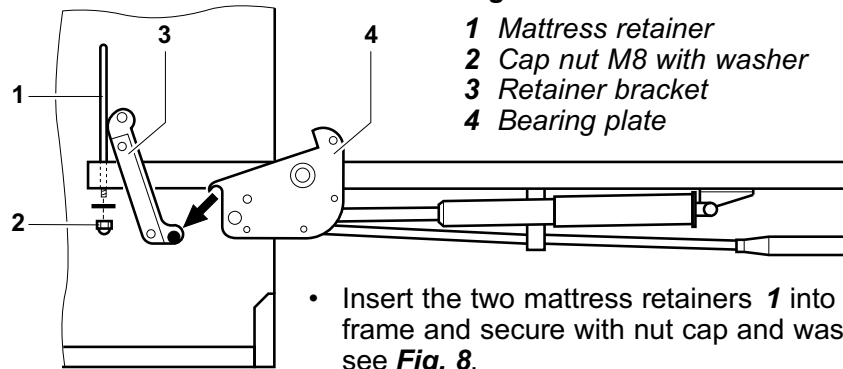

Fig. 8
- Insert the two mattress retainers **1** into the bed frame and secure with nut cap and washer **2**, see **Fig. 8**.